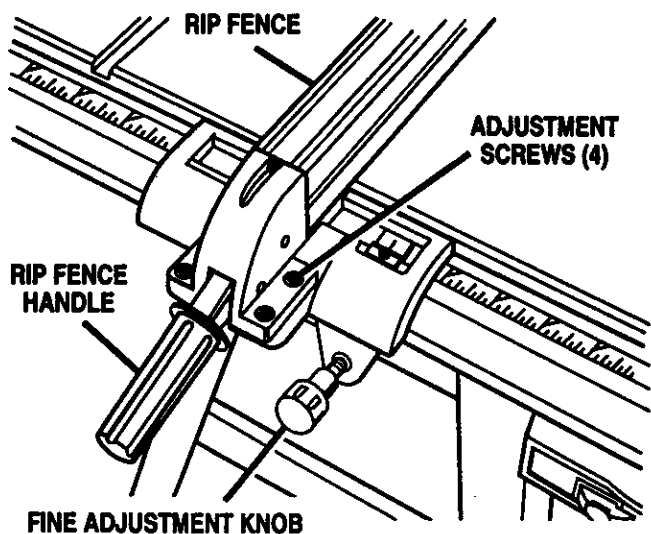

Fig. 34
- If the distances are different, loosen the four screws around the rip fence handle with a 6 mm hex key. Alternate the order (remove the screw opposite, not next to the first one). See Figure 34.